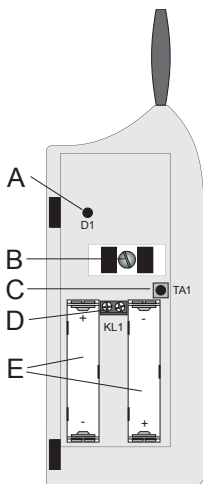

Figure 16
- If you are using external NC contacts, connect both cables (fed through the openings near screw 'B') with the screw terminals 'KL1' (position 'D' in figure 16).
- Insert 2 size AAA batteries into the battery compartment. Make sure that you observe the correct polarity (see the illustration in the battery compartment or figure 16).